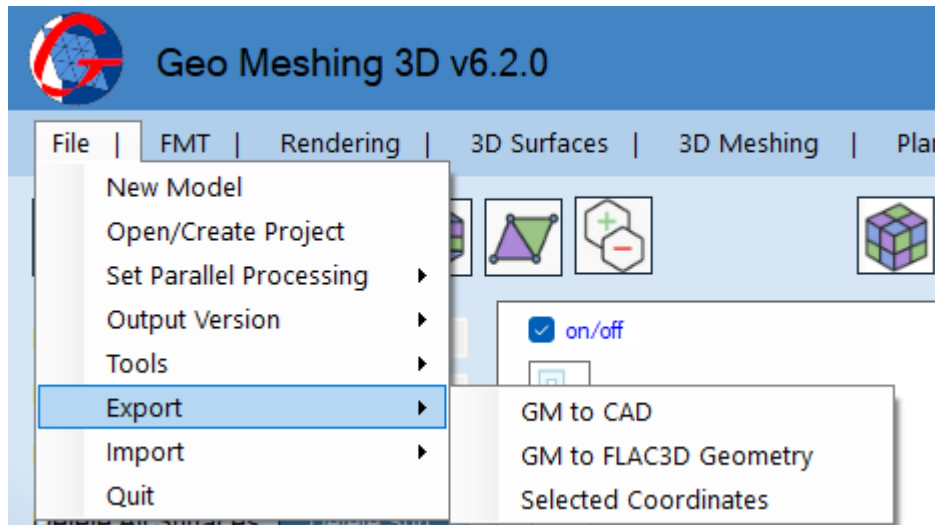

Figure 17: File Menu – Export.
- **File Menu, Export:** This option (shown in Figure 17) has a submenu with three options; *GM to CAD Script*, *GM to FLAC3D® Geometry and Selected Coordinates*.